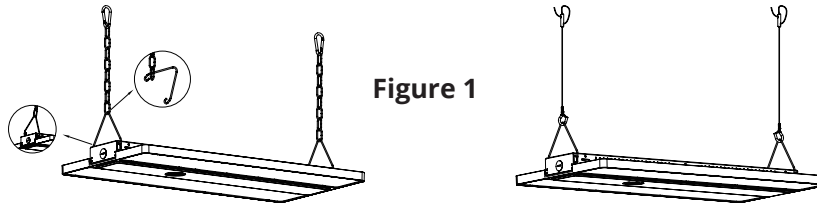

Figure 1
- Step1.** Hook up the chain; **(Figure 1)**
Step2. Connect the chain with fixture; **(Figure 1)**
Step3. Fix the chain on the rail, adjust the chain length as per need; **(Figure 1)**